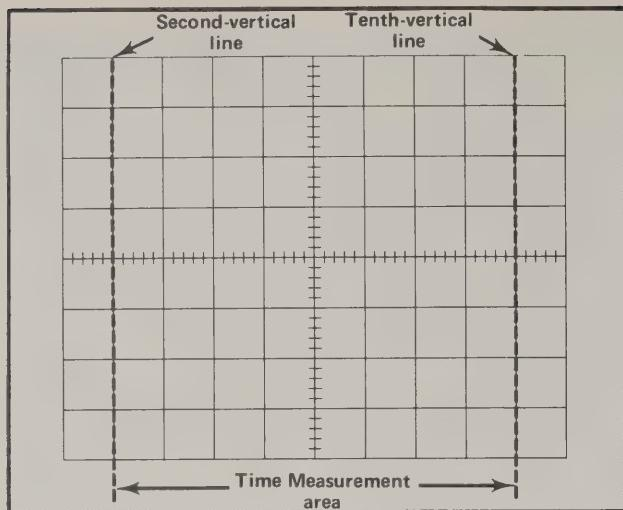

Fig. 1-8. Area of graticule used for accurate time measurements.
When making time measurements from the graticule, the center eight divisions provide the most linear time measurements (see Fig. 1-8). Position the start of the timing area to the second vertical line and adjust the TIME/DIV OR DLY
5. Set the TIME/DIV OR DL Y TIME switch to the fastest sweep rate that displays less than eight divisions between the time measurement points (see topic entitled "Time Measurements" and Fig. 1-8).